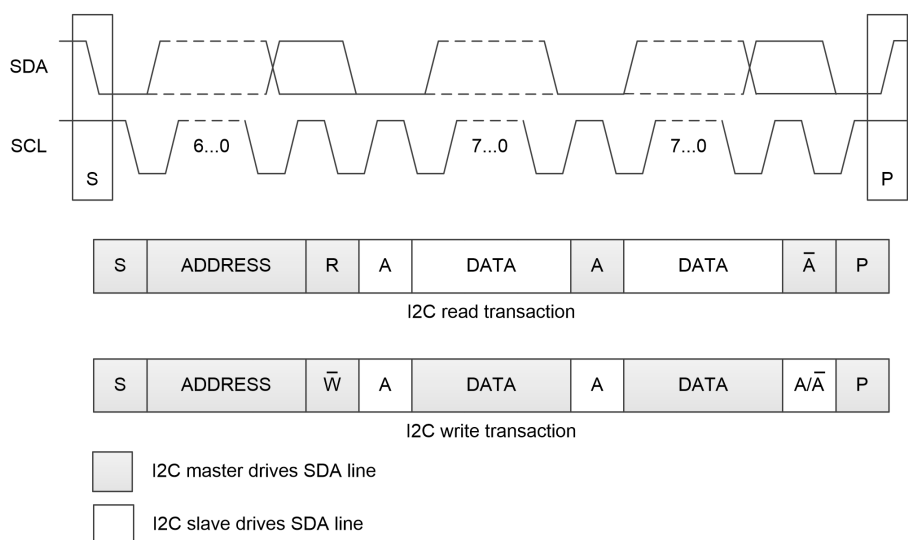

Figure 1.2. Sample transmission on the I2C bus.
Each Slave device has a unique address, which is used by a Master device to connect to it. The bus topology allows multiple Master and Slave devices to be attached simultaneously. The collision detection mechanism allows arbitrage of access to the bus. The Master device initiates the transaction (Figure 1.2) by sending the start bit (S), the address packet (ADDRESS), and the transmission direction bit (R/W). Then the data packets (DATA) are sent or received, and the reception of each of them must be acknowledged (ACK) or rejected (NACK) by the receiver. Transmission terminates when the Master sends stop bit. SCL signal is generated by a Master device, but the Slave can hold down the SCL line thus stretching the bus clock signal.